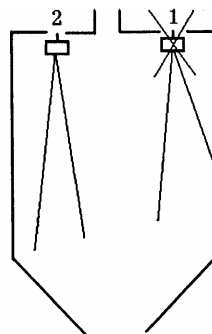

Fig.5
- 2) Aim the ultrasonic sensor (transducer) at discharge port as shown in Fig.5.